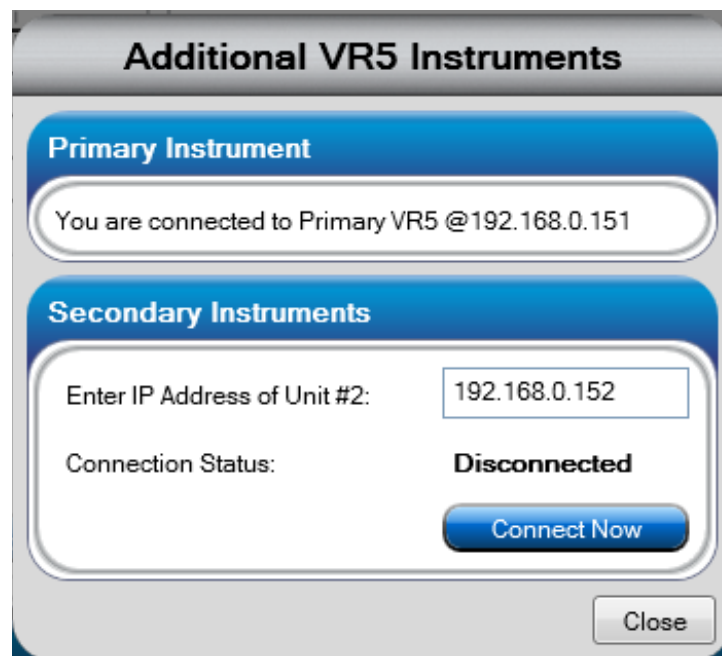

Figure 3-9: Additional VR5 Instruments Window
- The *Additional VR5 Instruments* window displays, as shown in Figure 3-9.